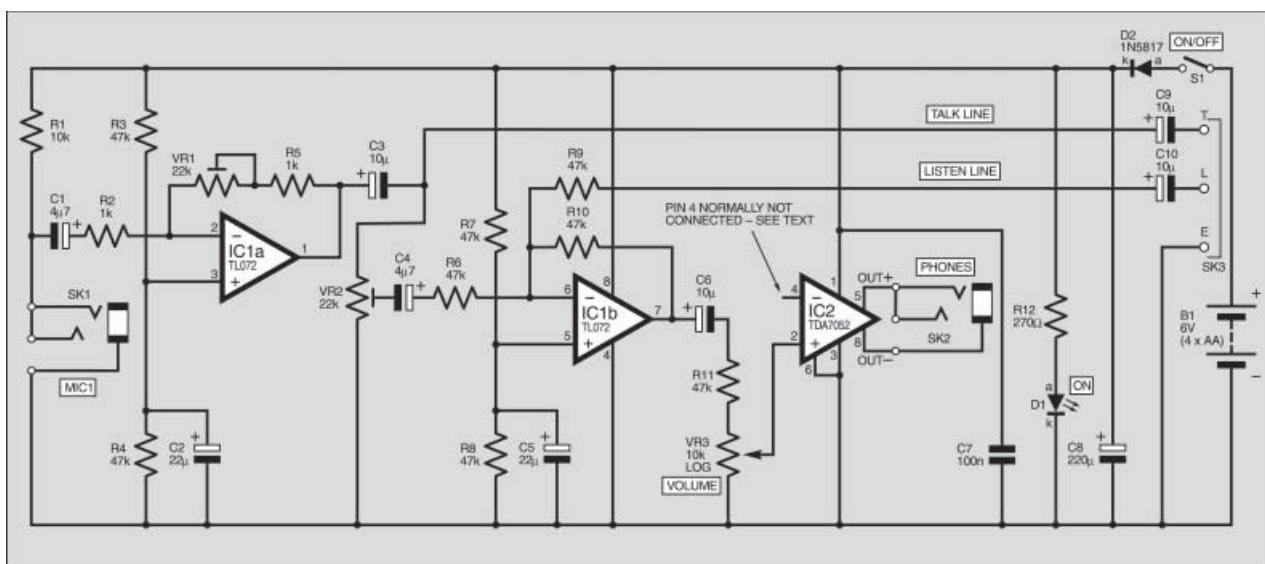

Fig.1. Circuit diagram for the Headset Communicator. This is the same for both the Master and each Slave unit.
The basic circuit for the Headset Communicator is shown in Fig.1 and this is the same for both Master and Slave units. Each unit may be considered as having one input and one output – the Listen (L) and Talk (T) lines respectively – plus a common "Earth".